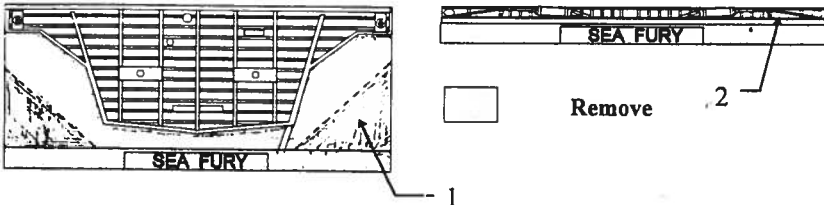

Fig 2
- II. Some plastic has to be removed from the inside of the kitset wing. See Diagram below (Fig 2)